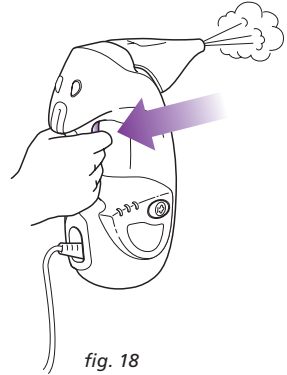

fig. 18
- 3 The Handheld Steamer is automatically set to SCRUB mode. Squeeze the steam trigger to activate steam. To change modes press the **ON/STEAM SETTING** button to select either DUST, MOP or SCRUB mode. You can change the steam mode while the Handheld Steamer is in standby or in use. Once the selected setting indicator light has turned blue, hold down the steam trigger to start steaming. (fig. 18)